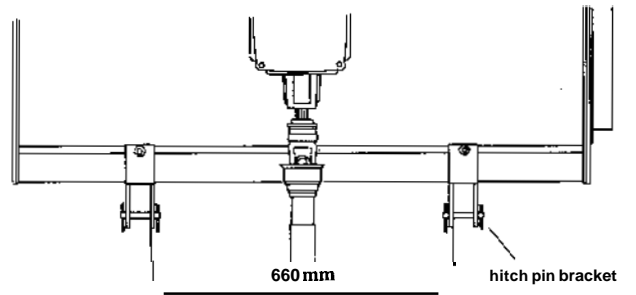

Fig. 7
Brackets must be installed with the weld nut on top side maintaining a distance of 26" (660 mm) centered between brackets. Fig. 7.
- 11 Position the hitch pin brackets as shown and tighten the bolts securely. Fig. 7.